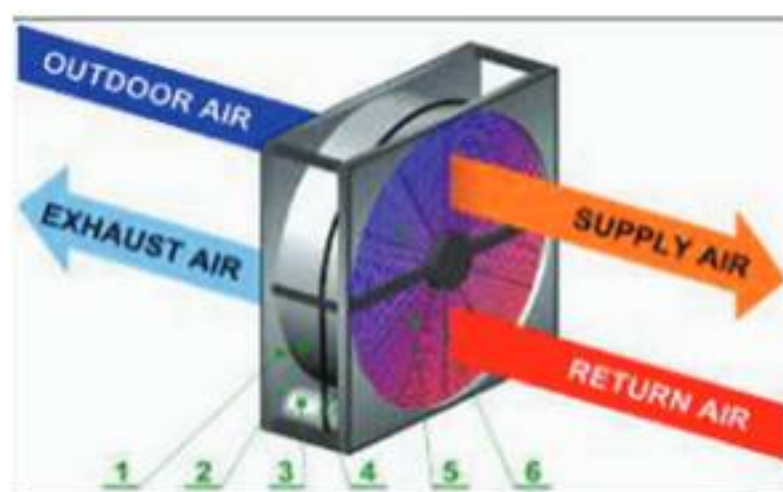

Fig. 25 Cross flow heat exchanger
- Traditional cross flow plate heat exchangers and rotary heat exchangers are not recommended in pharmaceutical applications due to possible cross contamination.(Fig 25)